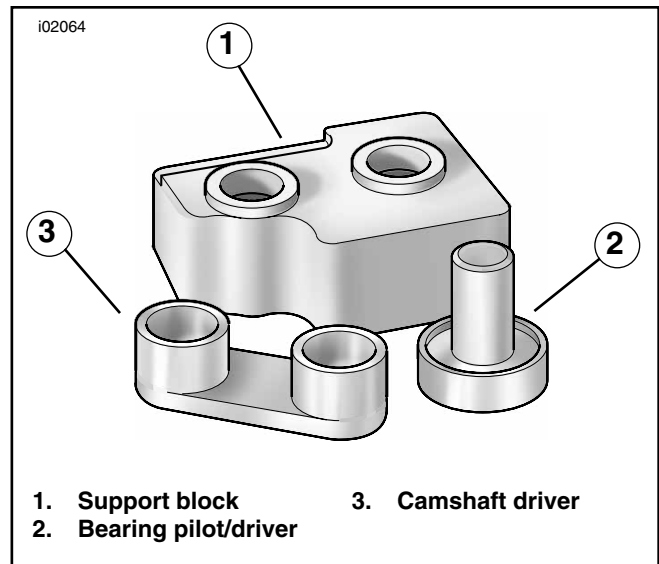

Figure 4. Camshaft/Camshaft Bearing Remover/Installer (Part Number HD-43644)
- a. See Figure 4. Obtain the CAMSHAFT/CAMSHAFT BEARING REMOVER/INSTALLER (HD-43644).